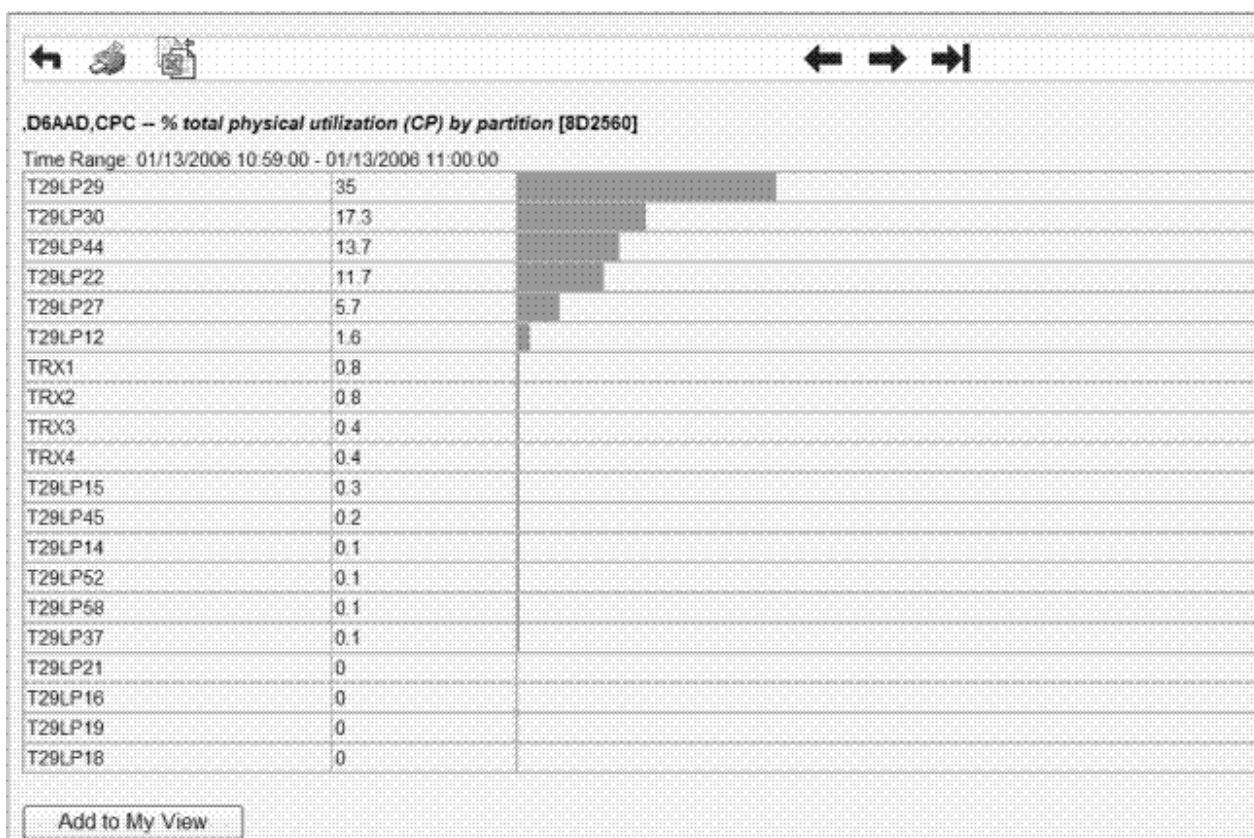

Figure 153. Total utilization of the processors by partitions
If you want to know the total utilization of the physical standard processors by the partitions in the CPC, click on **% total physical utilization (CP) by partition**. Clicking on this metric opens another view presenting the desired results, in our example, a list of partitions, showing the percentage of utilization for each (Figure 153 on page 239).